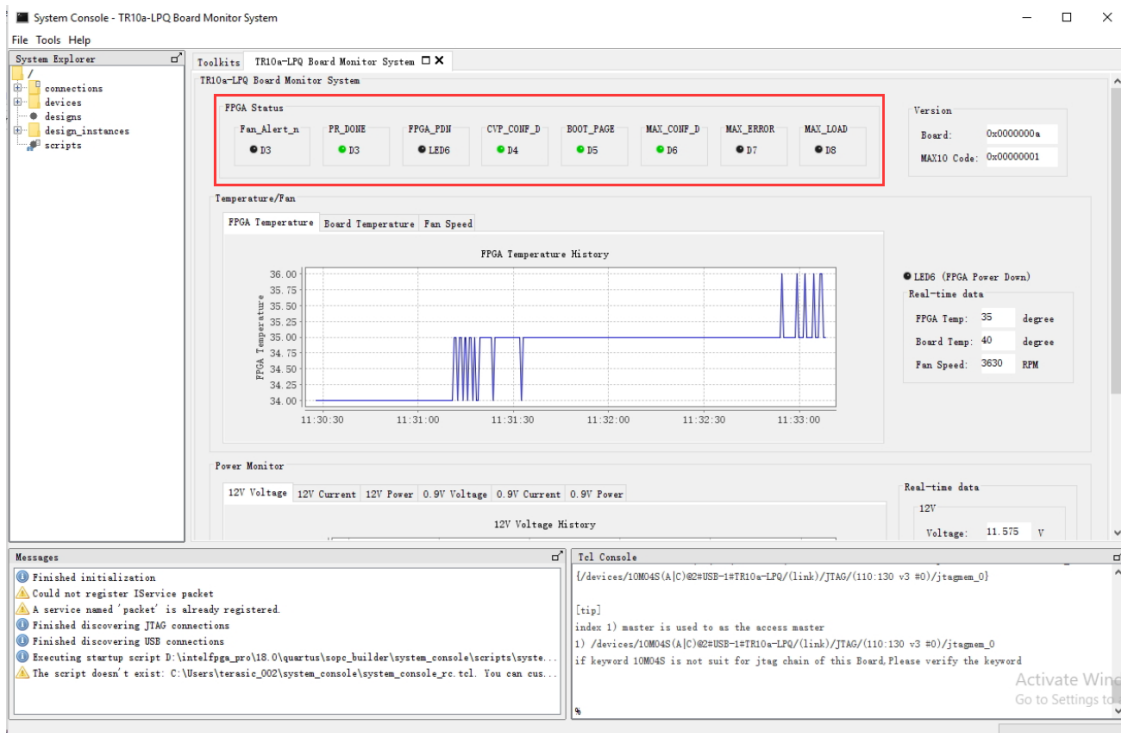

Figure 8-4 FPGA Status Section
- **FPGA Status:** As shown in **Figure 8-4**, it indicates the TR10a-LPQ status LED number. For these LEDs function, please refer to **Table 2-1** in section 2.2.